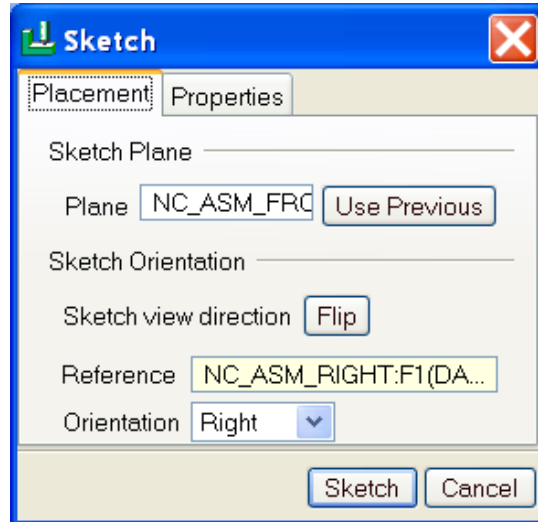

Figure 1.35
- Click on Sketch Tool  to sketch. Select NC_ASM_FRONT as sketch plane and NC_ASM_RIGHT as Reference plane Right as shown in Figure 1.35.